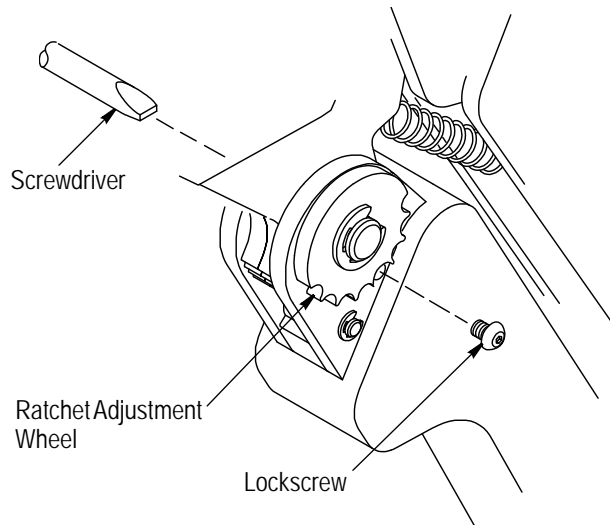

Figure 6
**6. RATCHET (SHUT HEIGHT) ADJUSTMENT (Figure 6)**